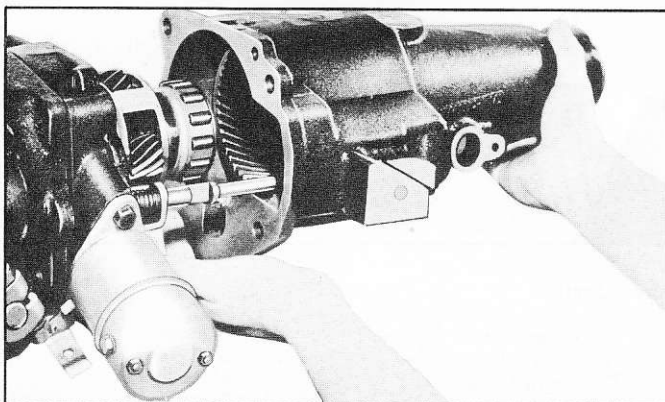

Fig. 3B—Removing Overdrive Housing and Shaft Assembly
11. Pull overdrive housing including overdrive output shaft and ring gear assembly to rear, being careful to keep adapter from pulling away from transmission case (fig. 3B) (catch the clutch rollers as they drop out of the retainer).